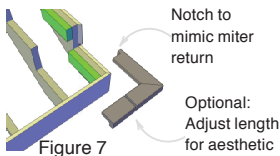

Figure 7
*For Pre-Fab Corners, see Figures 7 and 8.